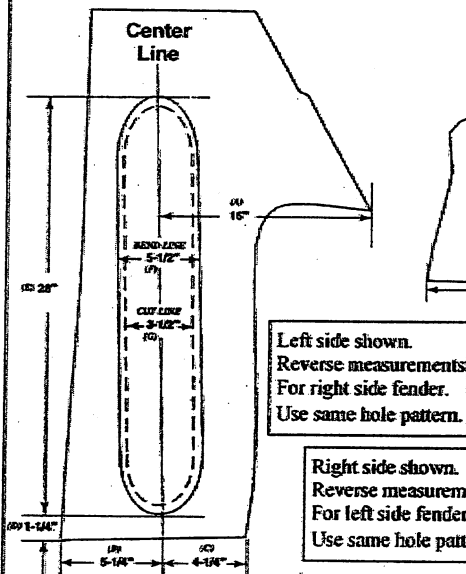

Figure 1
1. Construct a full 28" long well hole pattern for the fender well in accordance with Figure 1.
8. Cut along inside the cut line (G) to remove well opening.